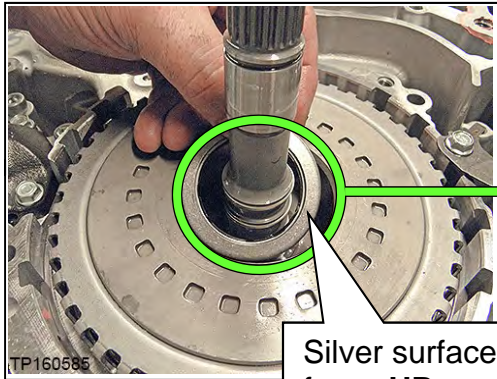
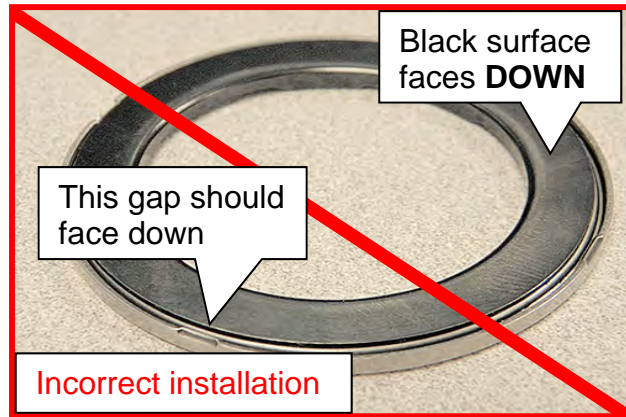

Figure 119
Figure 122
**HINT:** The thrust bearing has two sides. See Figure 119 through Figure 122 for the correct orientation.